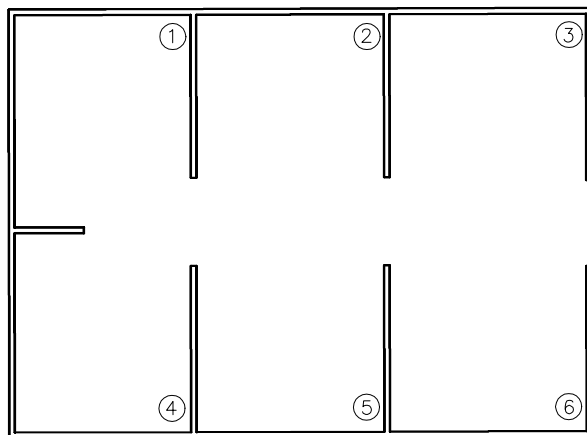

Figure 17-11 Floor plan drawing for Example 2
1. Draw the floor plan drawing, as shown in Figure 17-11 (assume the dimensions).